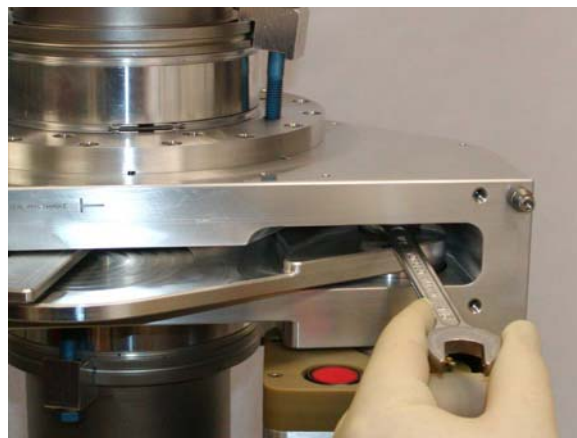

Figure 17: Gate Bolt
- Loosen the remaining bolt attaching the gate to the main shaft (using a ½” open end wrench). Refer to Figure 17.